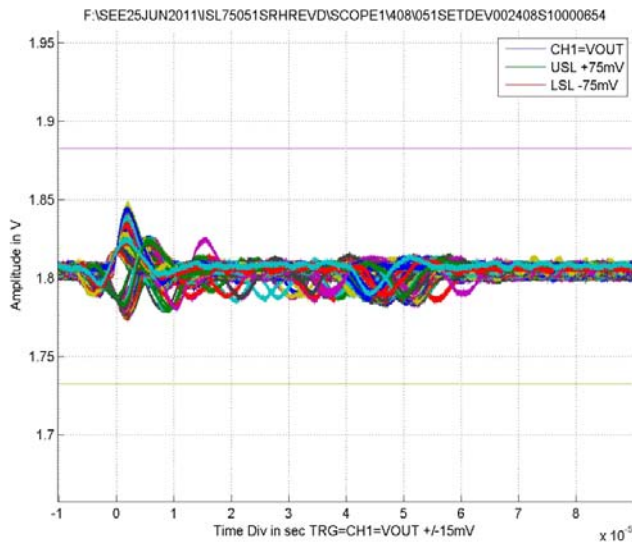

FIGURE 15. TYPICAL CAPTURE AT $V_{IN} = 4.0V$, RUN 408
- The waveforms signature observed in Figures 15 through 18 is caused by the handoff between main and redundant references during an SET event. This does not affect normal operation of the device.